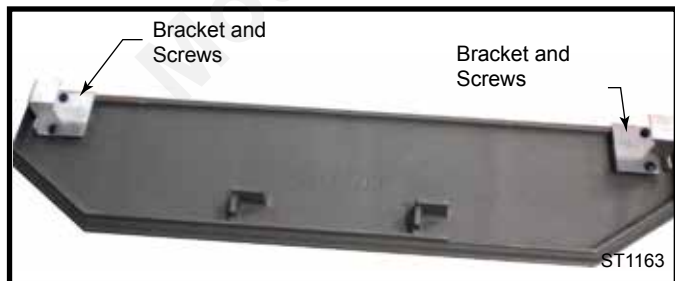
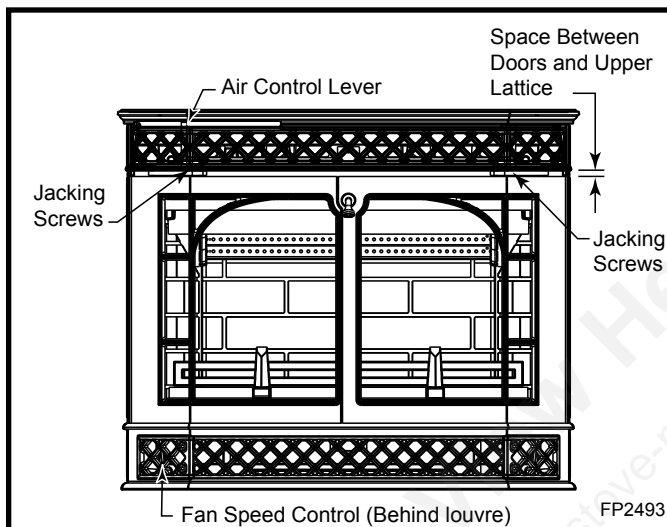

Fig. 8 Secure bracket to mantel with two (2) Philips screws.
Fig. 9 Merrimack Large Insert controls.
- 4. Route the blower power cord.** Run the power cord out the left or right side of the insert. Remove the two (2) louvre doors (Fig. 9) or access doors. Remove the screw and washer from each side holding the ashlip to the front. If you run the power cord out the left side, remove the two (2) screws holding the rheostat bracket to the fan housing. Insert grommet nearest fan in the slot on the fan housing, left or right side. Reattach rheostat bracket with the two (2) screws removed earlier. Remove the cover plate and insert the provided grommet into the slot. Reattach the cover plate.
5. Install Mantel and Access Door. For enamel units: Remove the prepackaged mantel and install the two (2) brackets to the underside of the mantel using four (4) ¼-20 x ¾" Phillips head black screws already installed in the mantel. (Fig. 8) The brackets can be found in the stove. Remove the screws and use to attach the brackets. For classic black units: Remove the tie strap holding the mantel in place. The brackets are already attached to the mantel. Unwrap the two (2) pre-assembled access doors and snap into place. If the spacing between the doors and upper lattice is not even, you can pull the doors mantel off and adjust the upper lattice. Screw the two (2) jacking screws that contact the front up or down as needed. (Fig. 9)
All Merrimack Large Insert controls are conveniently located on the front. (Fig. 9)
Figure 9 shows the automatic setback control. Move the primary air control lever all the way to the left. Push the primary control about one more inch to the left to open the air shutter (the lever will spring back automatically when released). The shutter will remain open only if the stove is below its proper operating temperature. Once open, the primary air control lever may be adjusted to any desired position. Once the stove heats up to its proper operating temperature, you will here a clicking sound confirming the shutter has closed. This returns the stove to the output setting of the primary air control.